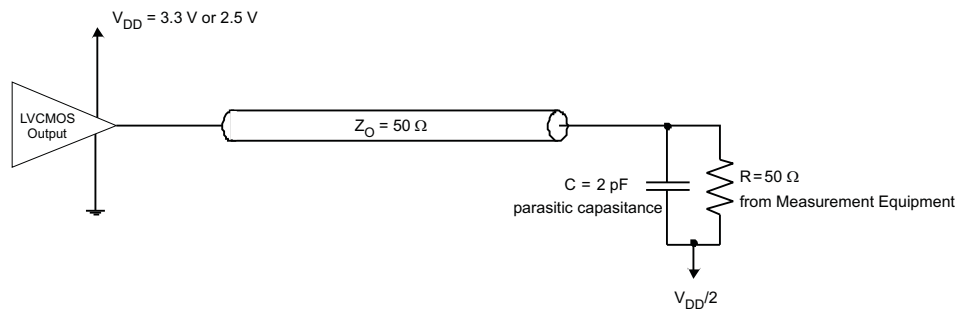

Figure 5. Test Load Circuit
- (1) All typical values are at respective nominal V_{DD}. For switching characteristics, outputs are terminated to 50 Ω to V_{DD}/2 (see Figure 5).